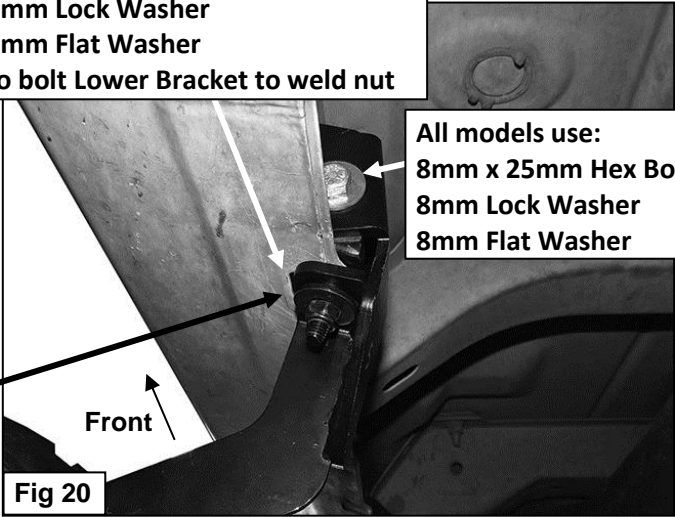

Fig 20
- 10. Line up the side tab on the Lower Bracket with the threaded hole in the side of the Upper Bracket. Attach the Lower Bracket to the Upper Bracket with (1) 8mm x 25mm Hex Bolt, (1) 8mm Lock Washer and (1) 8mm Flat Washer, (Figure 20). Leave loose at this time.